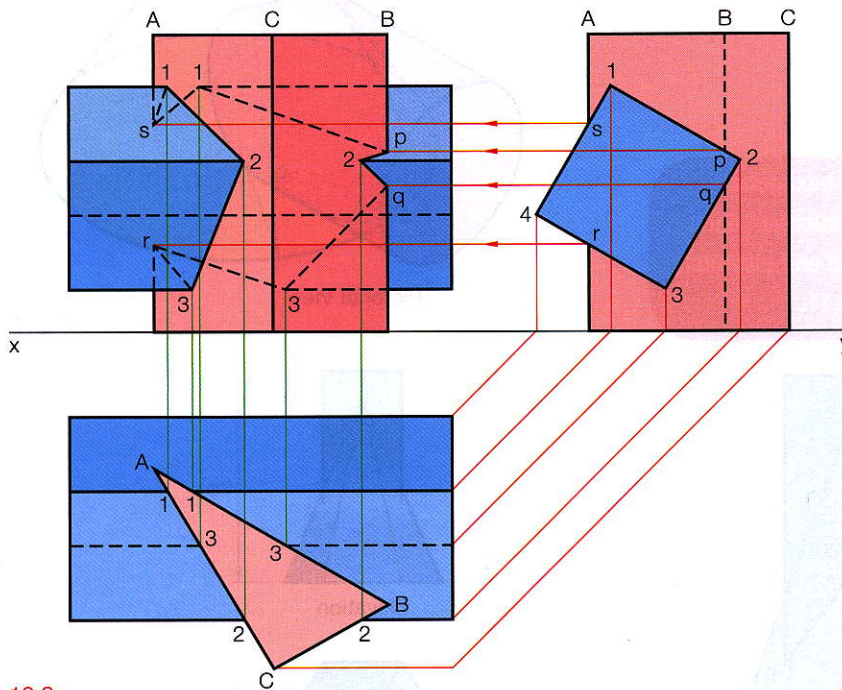

Fig. 10.8
- (1) Draw the given views.
- (2) The edge, 1 of the square prism intersects the triangular prism in two places. Similarly for edge 2 and edge 3 of the square prism. It can be seen from the end view that edge 4 does not intersect the triangular prism. All six of these points are found in plan and projected to elevation.
- (3) The bend points p, q, r and s are seen in end view and projected across to the front elevation.
- (4) The sequence of joining the points is found from the end elevation, s, 1, p, 2, q, 3, r, 3, 2, 1, s, Fig. 10.8.